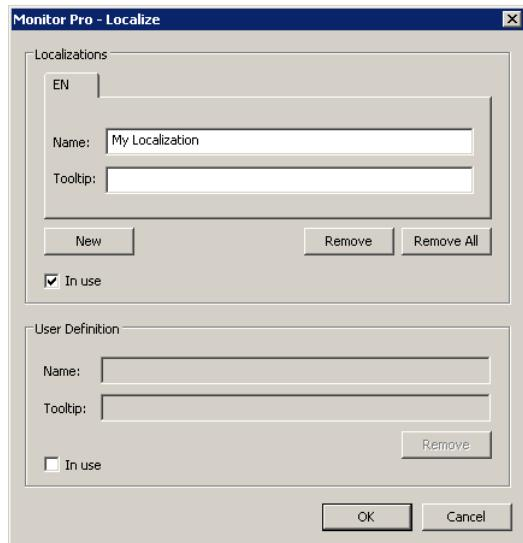

Figure 240: Typing a translation
5. Type the translation in the **Name** box, see Figure 240. A translated tooltip text, if available, can also be included on the **Tooltip** box.